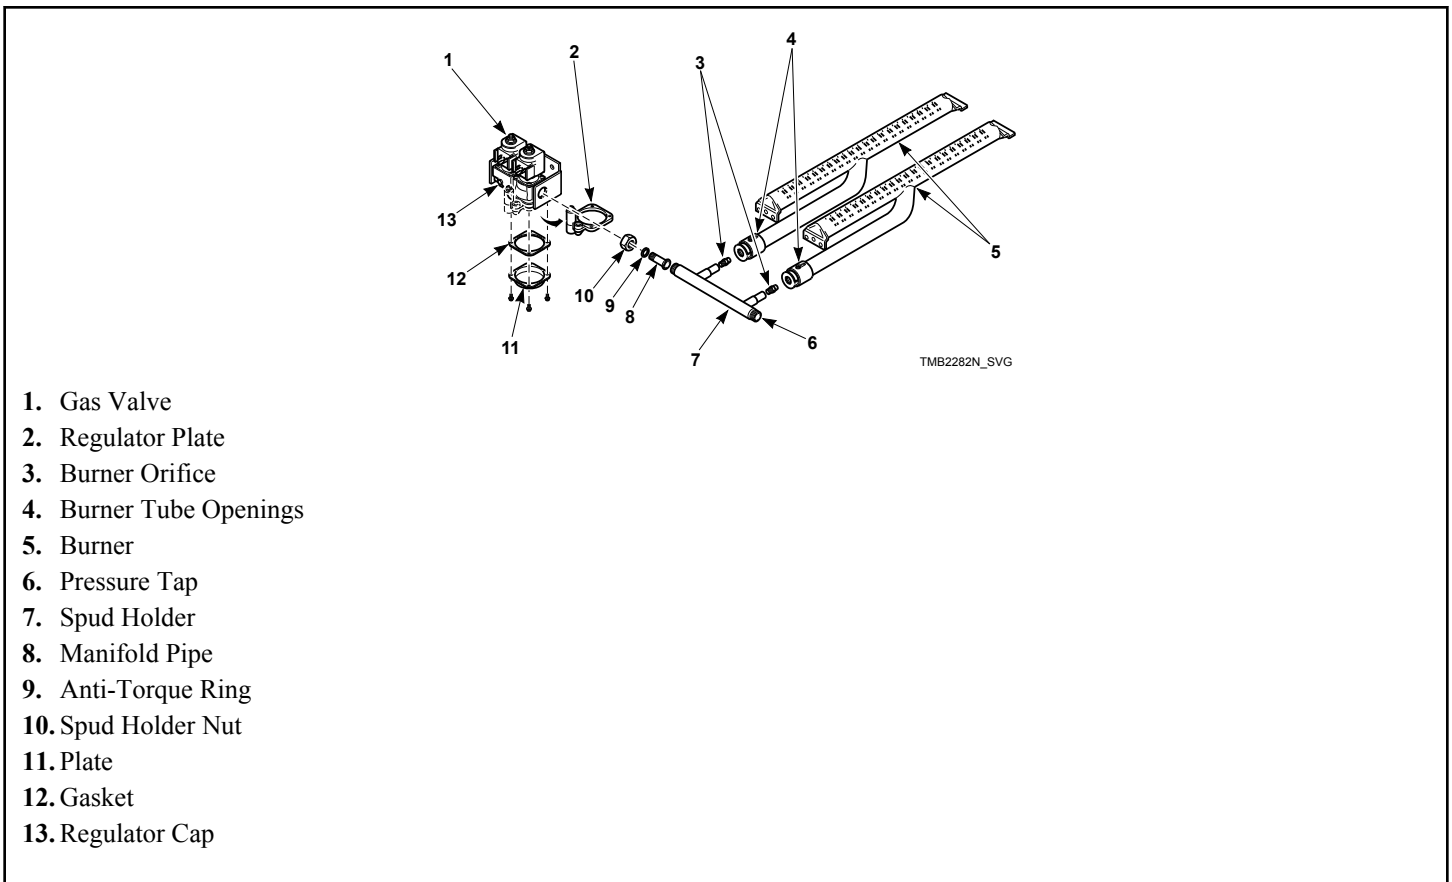

Figure 16
2. Remove spud holder. Unscrew spud holder nut near gas valve. Remove the burner orifice(s) from spud holder. Refer to *Figure 16*.
1. Check gas burner orifice (manifold) pressure as follows. Refer to *Figure 16*.
4. Start tumble dryer and note pressure once flame is burning. Remove regulator cap and adjust regulator screw until the burner orifice pressure per applicable table is achieved. Replace regulator cap. Refer to *Figure 16*.